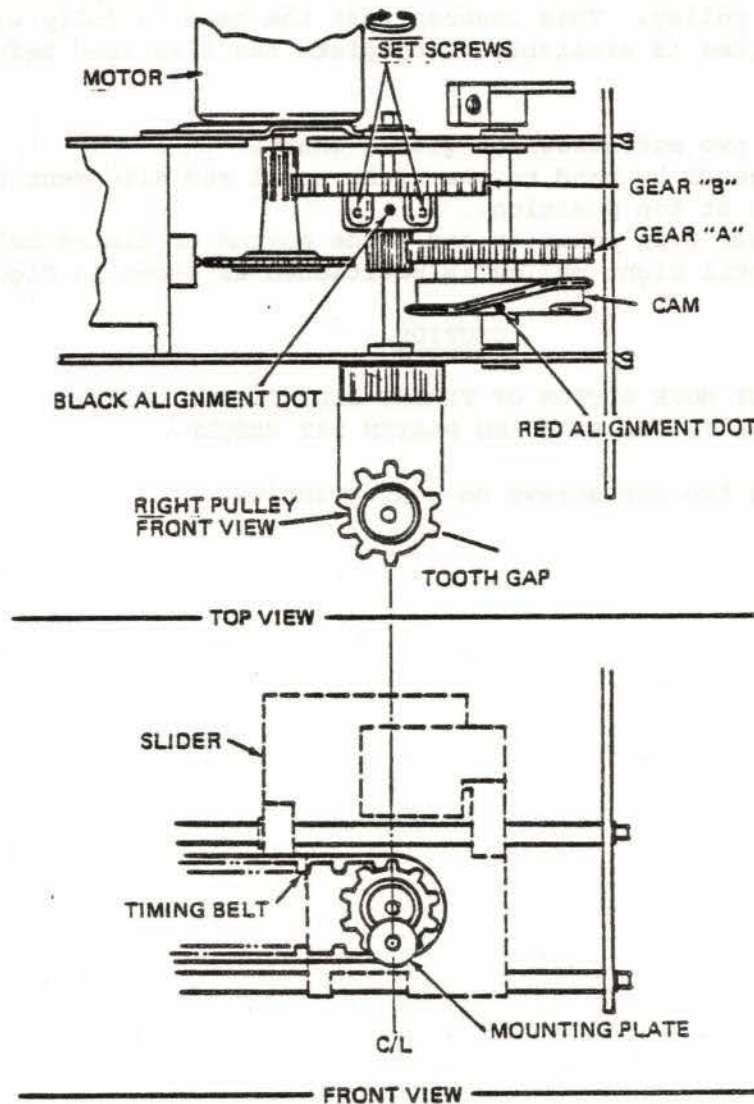

Figure 6-1. PRINTER "HOME" POSITION
6.2 PAPER FEED ADJUSTMENT (See Figure 6-1)
- (1) Loosen two set screws on gear B shaft.
- (2) Turn gear B by hand to the right until red alignment dot on cam gear is at top position.
- (3) Hold gear B in position and slide bottom of timing belt to the left until right pulley is positioned as shown in Figure 6-1.